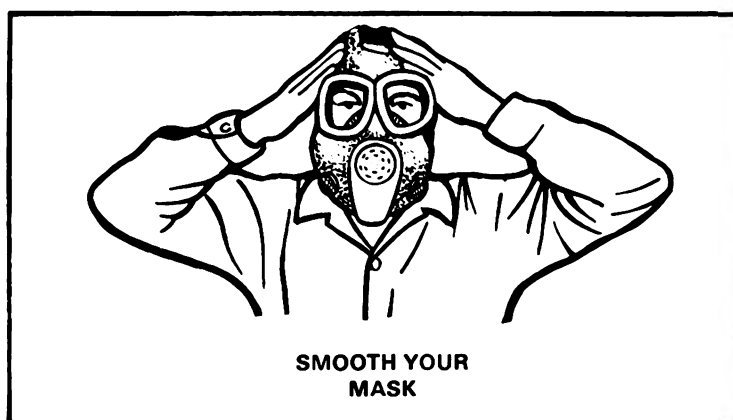

Figure 2.
5. Smooth the edges of the facepiece on the face with an upward and backward motion of the hands, pressing out all bulges to get an airtight seal (figure 2).